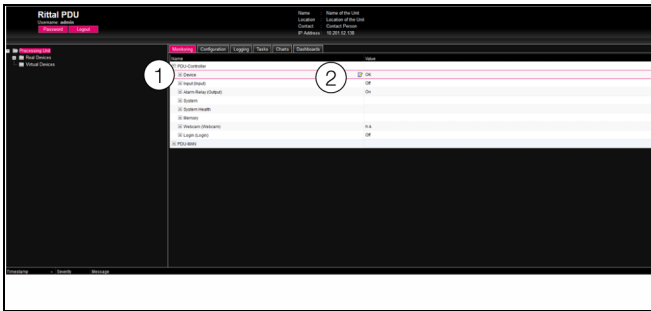

Fig. 29: Select multiple parameters
- Simply open the "CMC III PU 19" Edition" entry by clicking on the "plus" symbol in front of that entry (fig. 29, item 1).
- Position the mouse pointer at the end of the first column in the "Device" line (fig. 29, item 2).